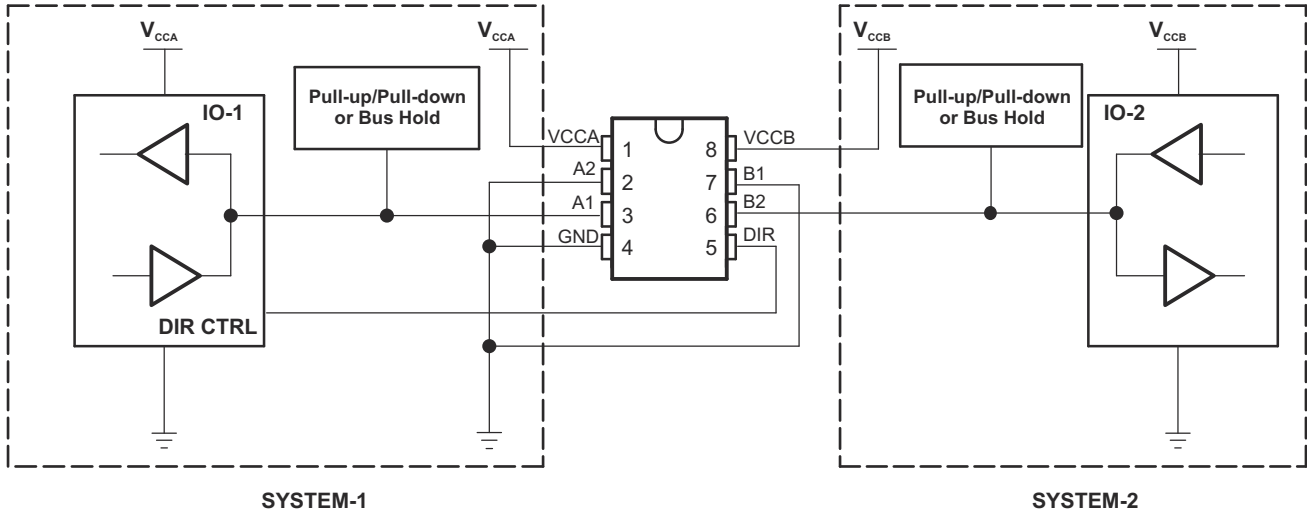

图 8-3. Bidirectional Logic Level-Shifting Application
图 8-3 shows the SN74AVCH2T45 used in a bidirectional logic level-shifting application. Because the SN74AVCH2T45 does not have an output-enable (OE) pin, system designers should take precautions to avoid bus contention between SYSTEM-1 and SYSTEM-2 when changing directions.